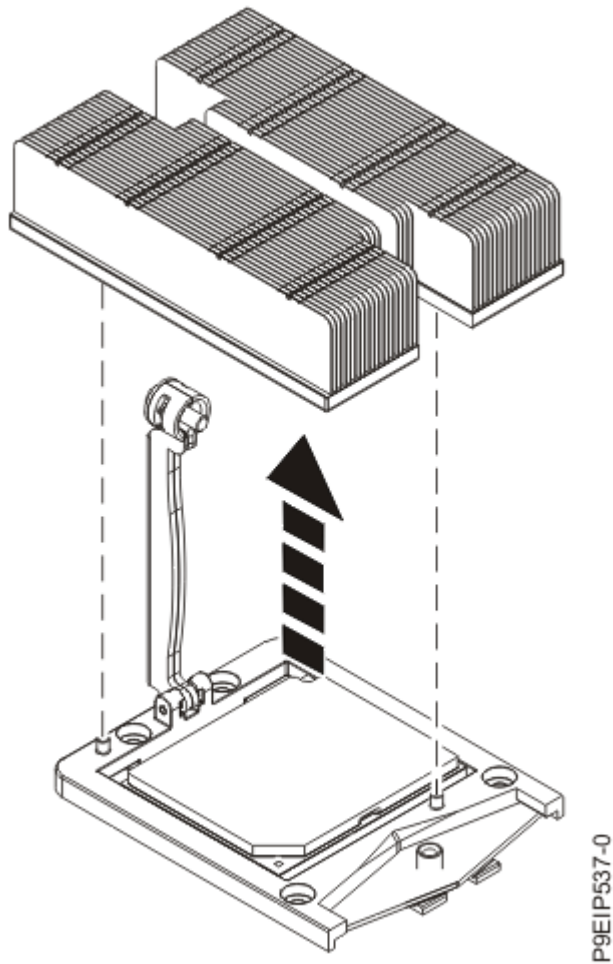

Figure 53. Removing the heat sink
5. Grip the heat sink and remove it by lifting it straight up as shown in Figure 53 on page 60.